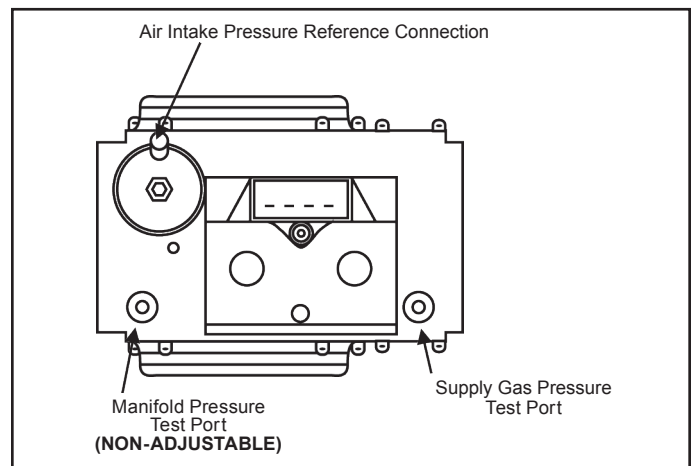

Figure 54. Gas Valve Assembly
5. Connect manometer to the supply gas pressure port on the gas valve. See *Figure 54*.
On the water heaters covered by this manual there are test ports for supply and manifold gas pressure readings on the gas valve. Using a small flat tip pocket screw driver - open the needle valve inside the supply gas pressure test port one full turn only; turn the needle valve screw counter-clockwise to open the valve. Slide the manometer sensing tube over the top of the test port. See *Figure 54*.